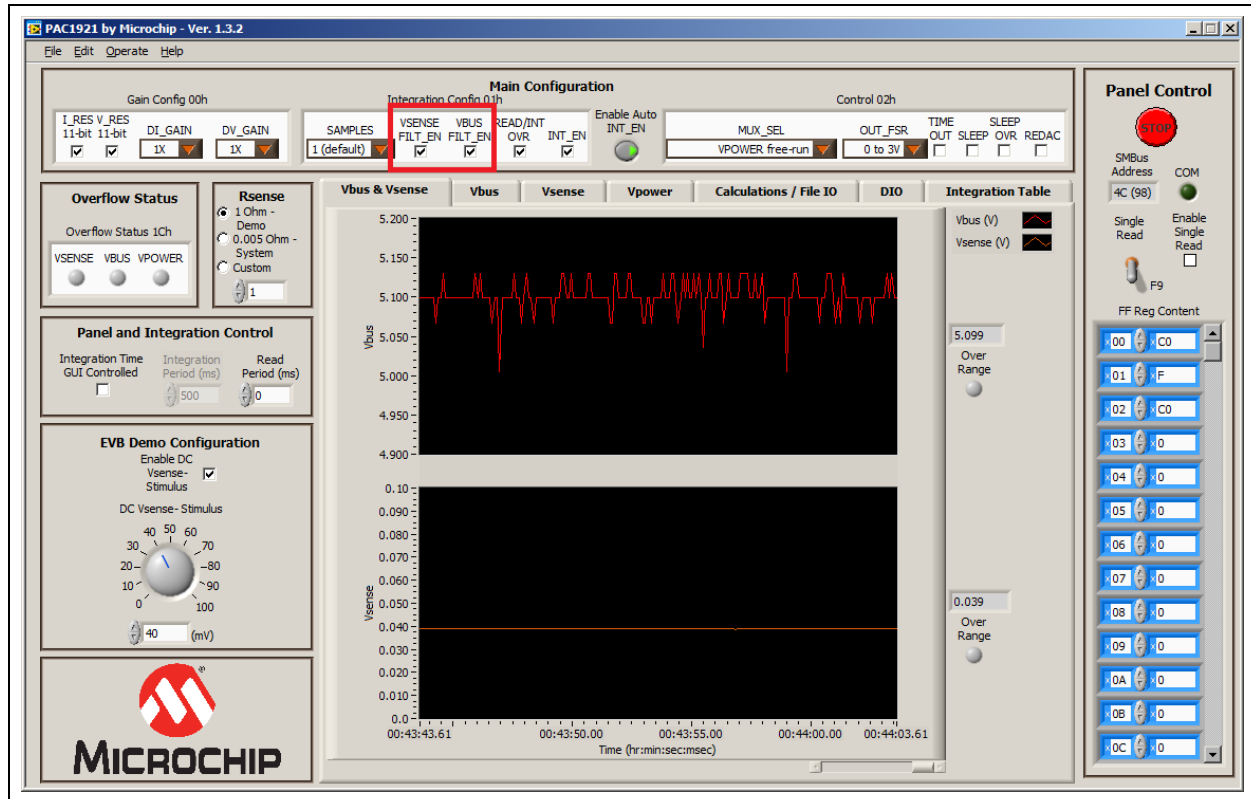

FIGURE 4-23: Free-Run Integration with ADC Post Filters Enabled.
- Check the “VSENSE FILT_EN” and “VBUS FILT_EN” boxes to enable the ADC post filters, and observe the improvement in the plots on the **Vbus & Vsense** tab, as shown in Figure 4-23.